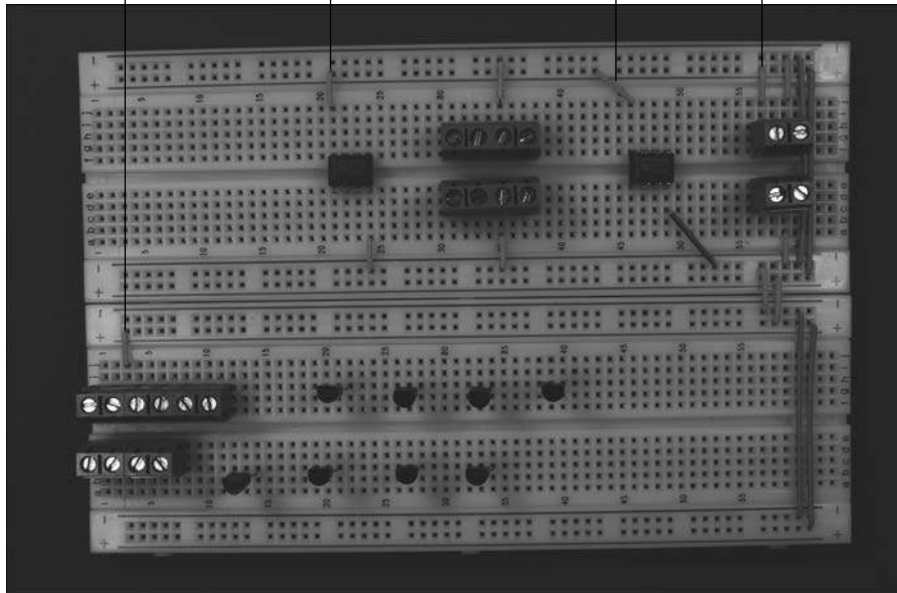

Figure 5-7:
4. Insert wires to connect the ICs, the battery terminal block, and one of the LED terminal blocks to the +V bus. Then insert wires between the +V buses to connect them, as shown in Figure 5-7.